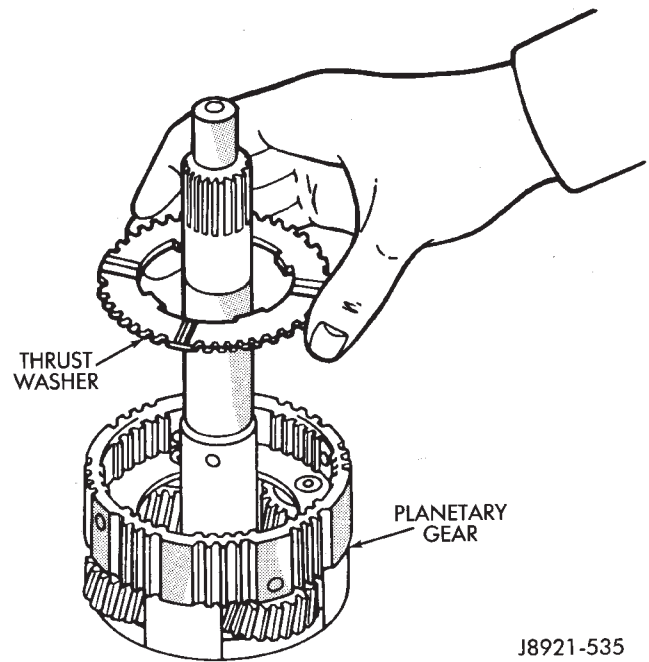

Fig. 20 Planetary Thrust Washer Installation
- (1) Install thrust washer in planetary gear (Fig. 20). **Grooved side of washer faces up and toward front.**